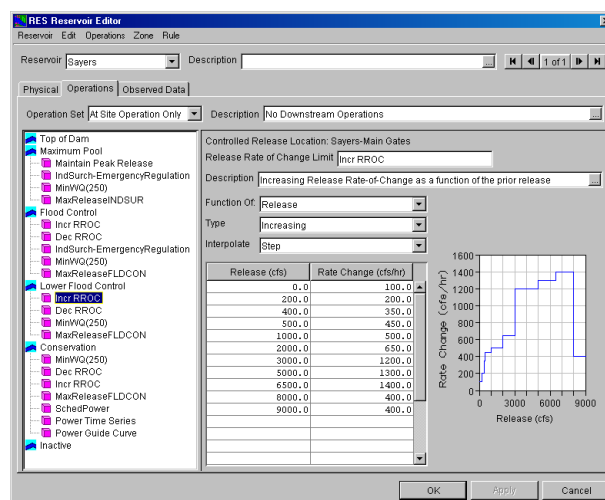

Figure 11.16 Reservoir Editor--Operations Tab: Example of Completed Release Function Rule
6. Define the function using the table in the release function rule editor (see Figure 11.16). You can either copy and paste data from a spreadsheet application or type in the values manually.
An example of a completed **Release Function** rule is shown in Figure 11.16. When you have finished entering data for the Release Function rule, be sure to click the **Apply** button before moving on to the next rule.